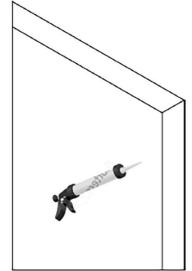

FIGURE 9
Put a small amount of silicone in each hole drilled. Place Plastic Anchors for Channels (J), if needed, in holes gently tap with hammer until anchor is flush. It might be necessary to use a razor knife to cut the lip of the anchor off so it is completely flush with the wall. Be sure not to hit the tile. (See Figure 9)